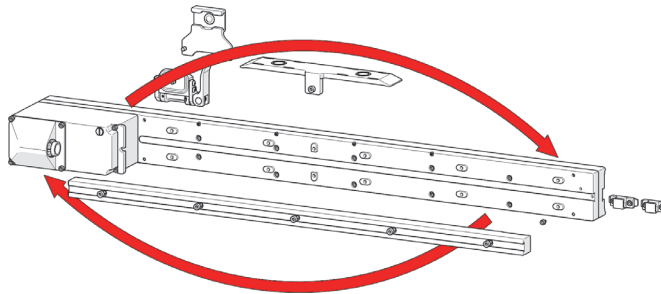

Figure 2-50 Rotate the raster arm
8. Rotate the raster arm (see Figure 2-50 on page 81).